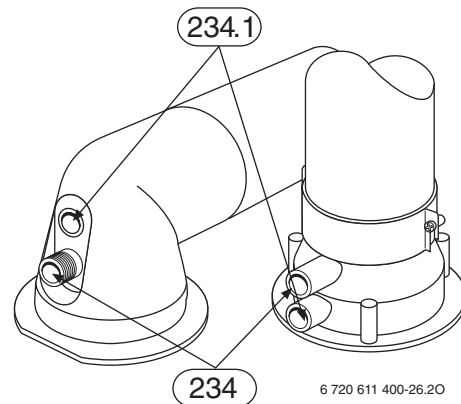

Fig. 39
- Switch on the appliance at the master switch (I).
- Unscrew sealing plug from flue gas testing point (234). Refer to fig. 39.